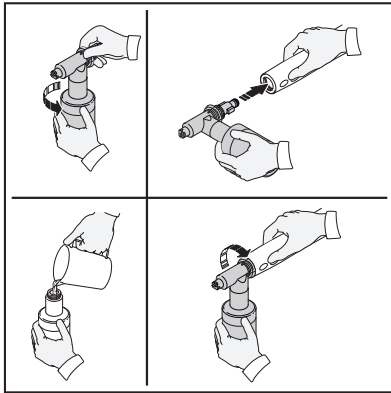

fig. 6
- Use a properly formulated detergent with water ratio according to instructions on the container (fig. 6).